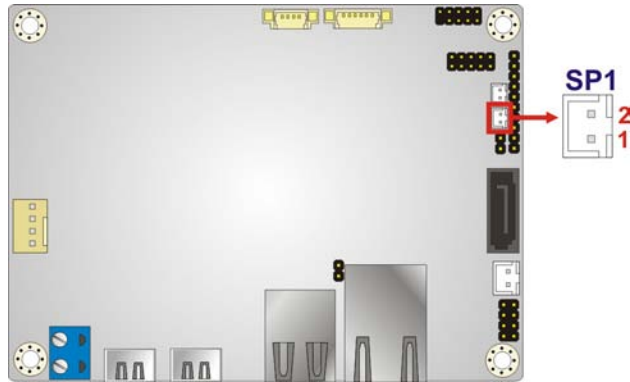

Figure 3-7: Buzzer Connector Location
- CN Location: See **Figure 3-7**